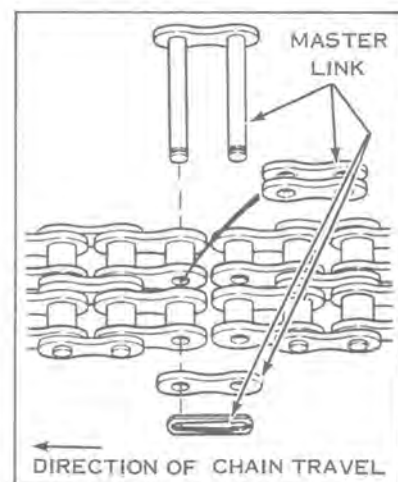

Figure 10-17
A broken drive chain can be repaired with master links available from your dealer. See Figure 10-17. File off peened over rivet of links to be removed and replace with master link.
- A. Loosen jam nut then turn adjusting fitting located on brake bracket in until hand lever will just allow the parking brake lock to be engaged. When parking brake lock is released, the hand lever must return to free position without binding. See Figure 10-17.